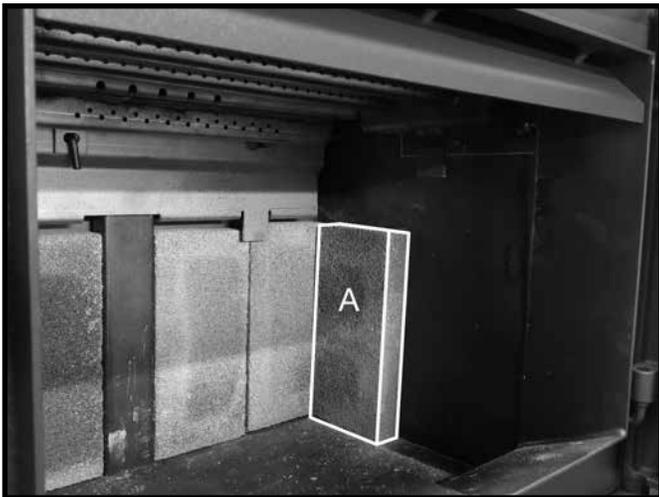

Figure 20: 1st side wall brick in place.
3. For the side walls: Stand an "A" firebrick against the side wall and up against the rear wall firebrick (Figure 20). Stand another "A" brick beside the first, one followed by a narrow "B" firebrick (Figure 20).